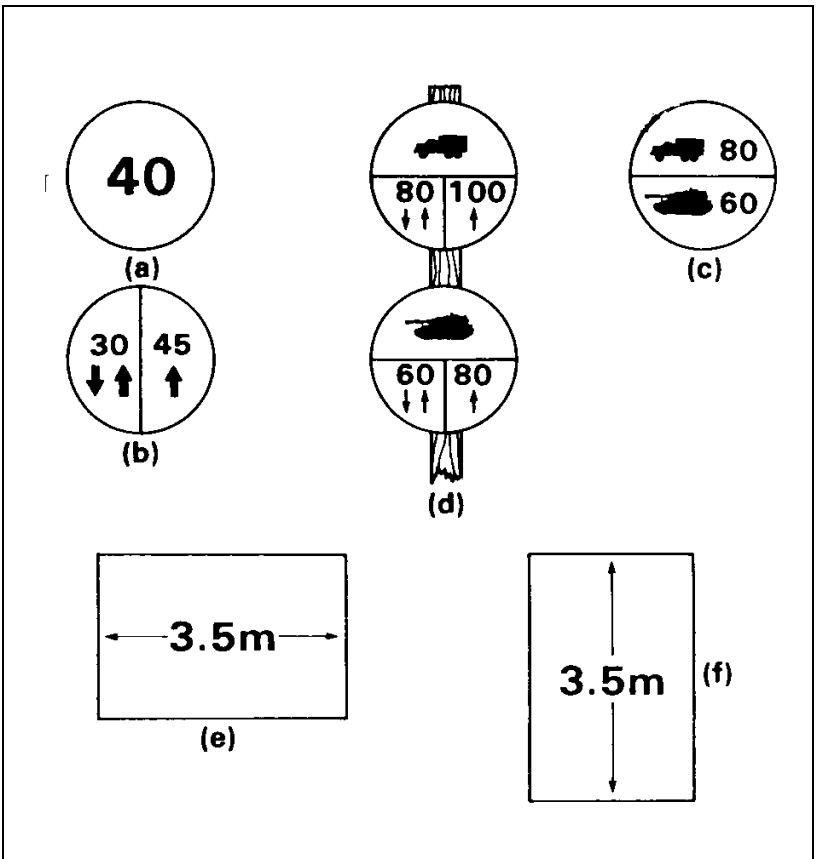

Fig 14-6-1 Standard Bridge and Raft Load Classification Signs
- (1) **Signs of One-Way Bridges.** These signs are to be a minimum of 40 cm in diameter. (Fig 14-6-1(a)), and
- (2) **Signs for Two-Way Bridges.** These signs are to be a minimum of 50 cm in diameter. They are to show on the left half the two-way classification
and on the right side the one-way classification. (Fig 14-6-1(b)).
- (1) In those instances where the bridge classification indicates the need for a separate classification of a bridge for wheeled and track vehicles (only if over class 50), a special circular sign, indicating both classes, is to be used for one-way traffic bridges. The wheeled classification is shown above the tracked classification. This sign is to be a minimum of 50 cm in diameter. (Fig 14-6-1(c)).
- (2) If similar circumstances pertain in a two-way traffic bridge, normal signs shown in Fig 14-6-1(b) and Fig 14-6-1(d) may be combined at the discretion of the commander concerned.
- b. The inscription on a sign indicating the bridge or raft width is to consist of two arrows and the bridge or raft width in the metric or Imperial system. These are to be arranged as illustrated in Fig 14-6-1(e).
paragraph 5. These are to be arranged in a manner similar to Fig 14-6-1(f).
- a. **Front Signs.** The front sign, except on towing vehicles and tank transporters, is to indicate the laden solo class of the vehicle (Fig 14-6-1(a)). On towing vehicles, the front sign is also to indicate the combine load class of the train.